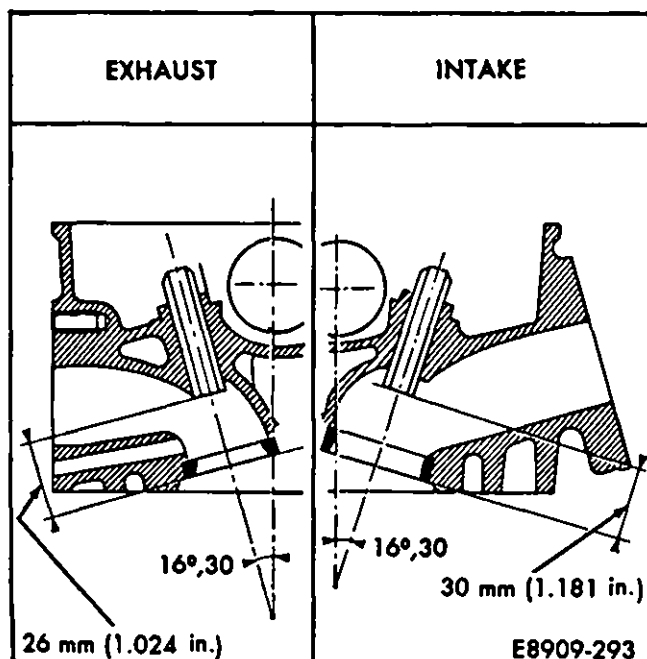

Fig. 4—Valve Guide Dimensions
The new valve guide must be installed with a 0.10 mm (.0039 inch.) interference fit between the guide and the valve guide bore. The valve guide bores in the cylinder head must be machined to the appropriate diameter for the repair valve guide. The angle is 16.5° (Fig. 4).
(2) Press the intake valve guides in until the bottom of the valve guide is 30 mm (1.181 in) from the top of the valve seat (Fig. 4).
(3) Press the exhaust valve guides in until the bottom of the valve guide is 26mm (1.024 in) from the top of the valve seat (Fig. 4).
(4) After the new guides are installed, ream the valve guides to 8 mm (0.315 in) and then grind the valve seats. To insure proper sealing between the valve and valve seats, the valve seats must be ground after a new valve guide has been installed and reamed to 8 mm (0.315 in).
(5) Clean the cylinder heads. Remove all metal chips and grinding dust from the valve guides and combustion chambers.